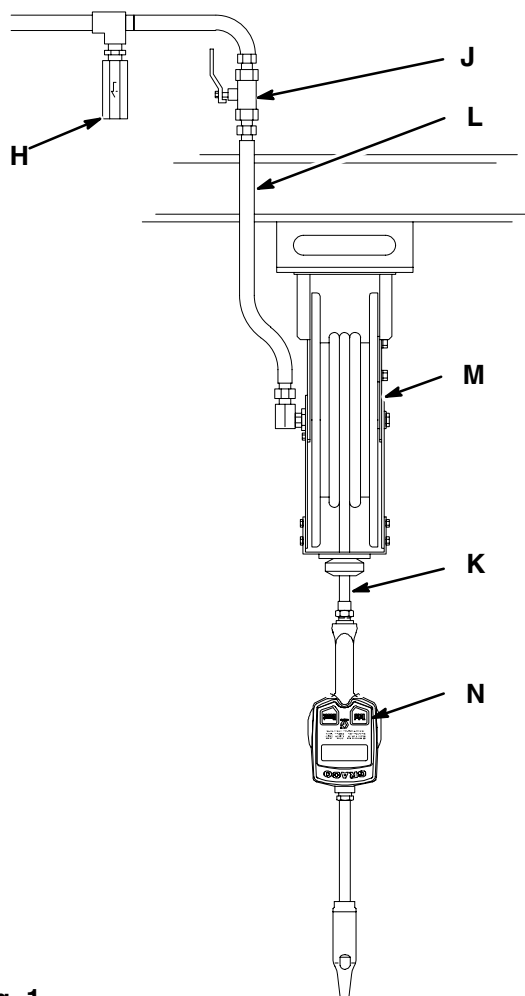
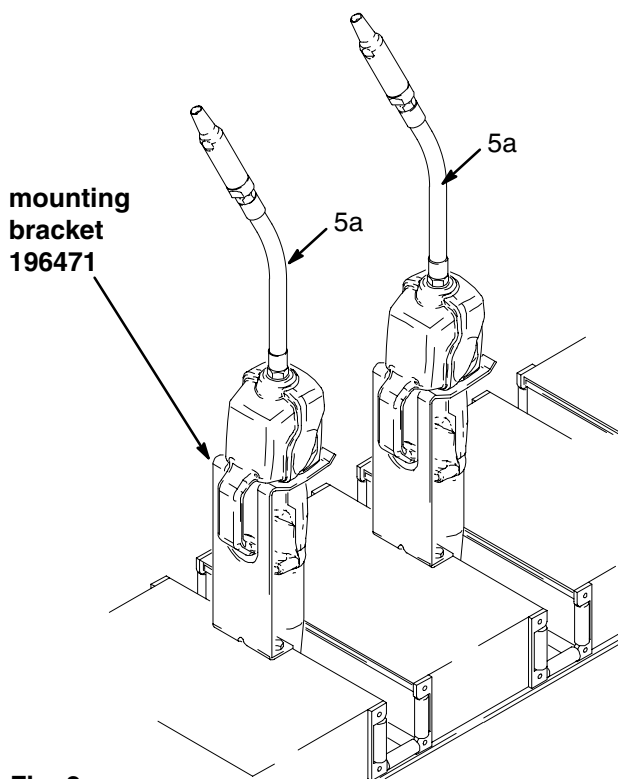

Fig. 1
Fig. 2
Fig. 1 shows a typical hose reel installation. Fig. 2 shows how these dispense valves can be installed on a console.
Mounting bracket 196471 is available for resting an EM5 dispense valve on a console. See Fig. 2.
3. Close the shut-off valve (item J in Fig. 1).